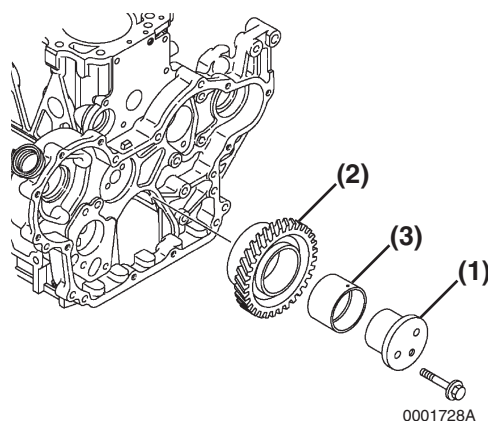

Figure 6-88
1. Remove the bolts from the idler gear shaft (**Figure 6-88, (1)**). Remove the idler gear shaft, idler gear (**Figure 6-88, (2)**) and bushing (**Figure 6-88, (3)**).